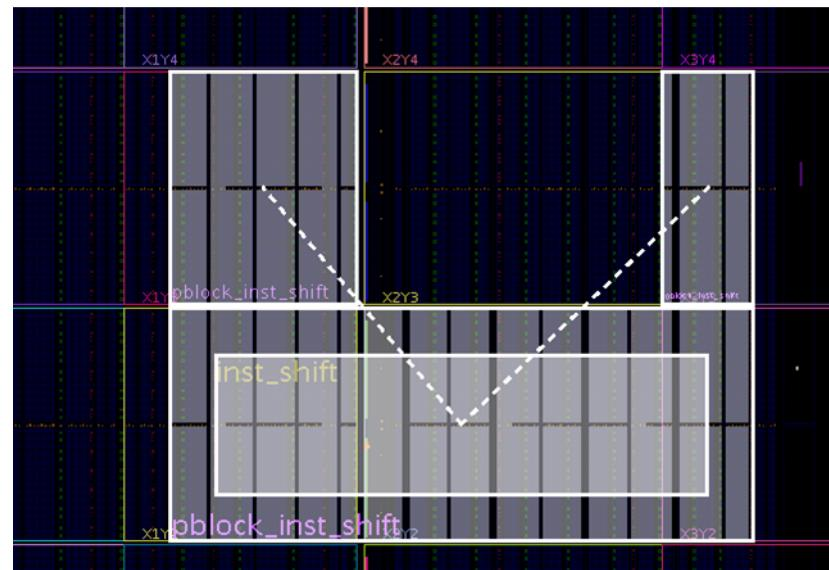

Figure 7-5: Unsupported Pblock with `clock_region` Gap
4. Do not create U or H shaped Pblocks with large gaps that span an entire `clock_region`, as shown in Figure 7-5 below.